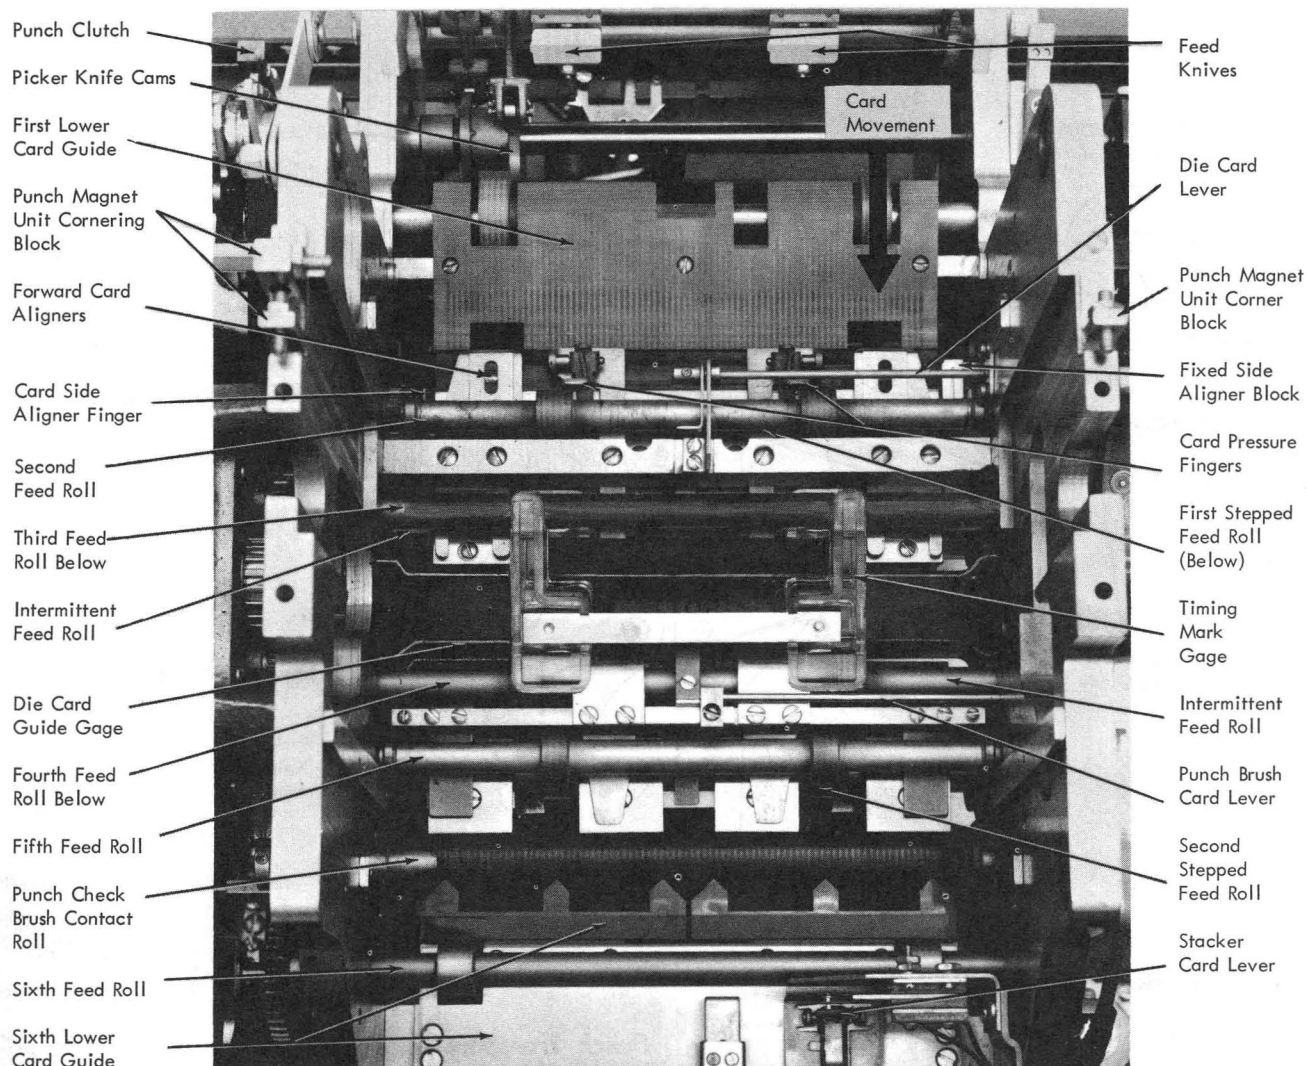
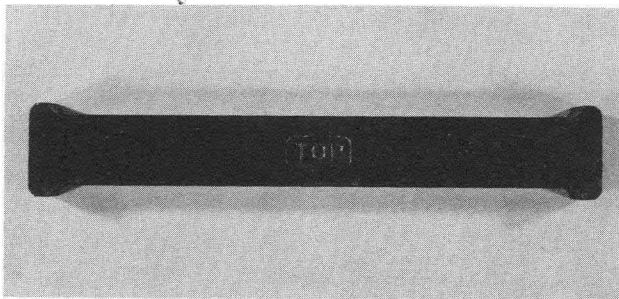

Figure 3-55. Punch Transport
Figure 3-59. Die Card Guide
FIRST AND SECOND, STEPPED ROLLS (FIGURES 3-55)
1. Place die card-guide (Figure 3-59) in die position (Figure 3-55).
2. Place timing-mark gage over the die card-guide (Figure 3-55).
5. Check for .005"-.015" gap between card and fixed side-aligner block (Figure 3-55) under the following conditions:
5. Remove fixed side aligner block, stamped with an arrow and "Front" (Figure 3-55).